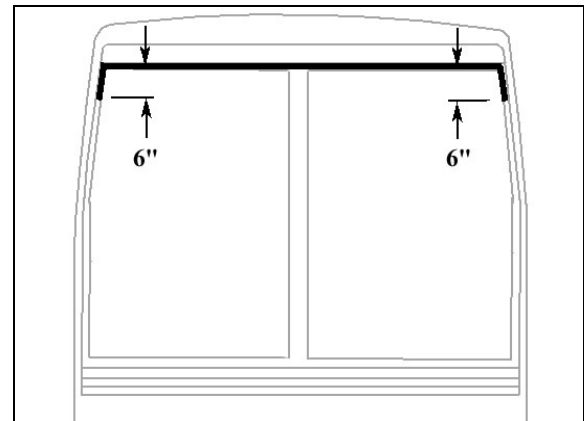

FIGURE 50: APPLICATION OF SIKA 221 BLACK
8. Apply Sika 221 black (Figure 50) between fiberglass and rubber extrusion.